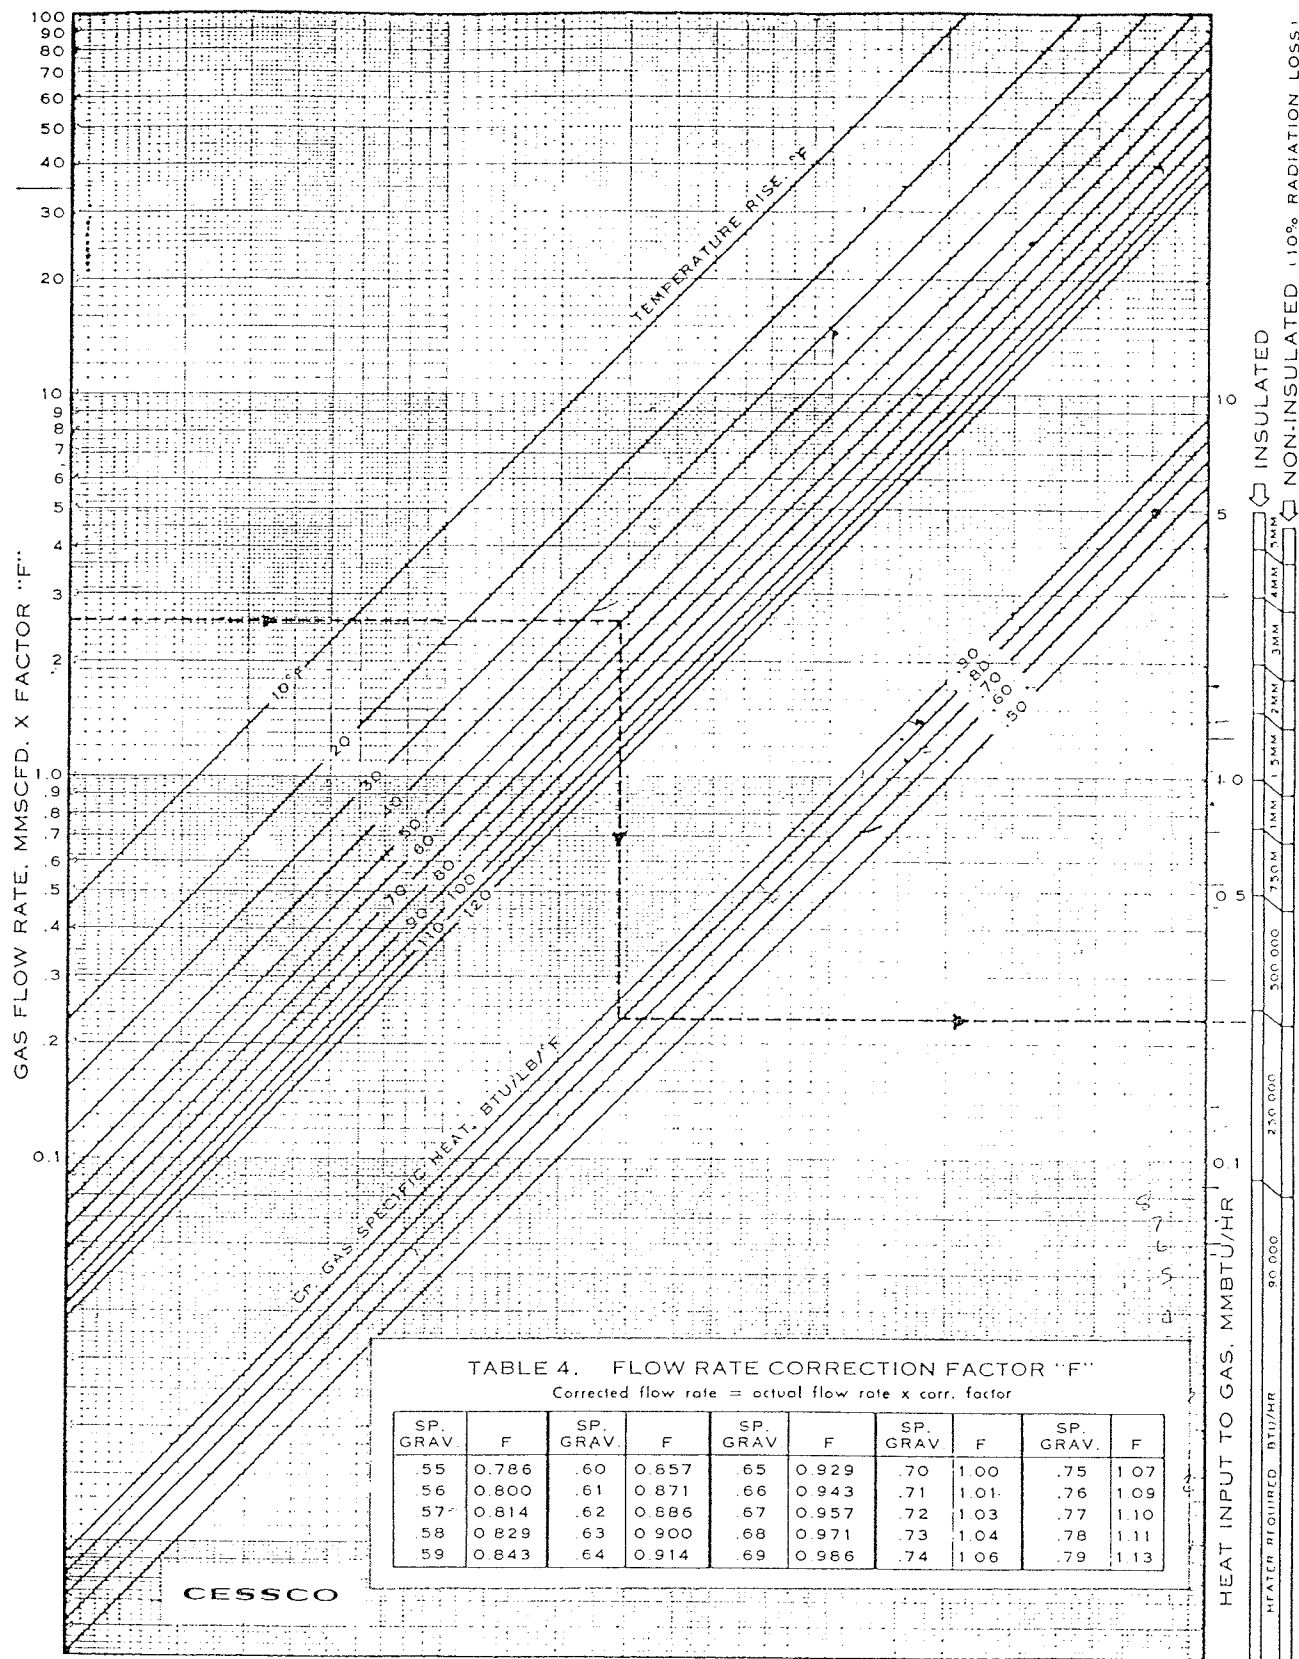
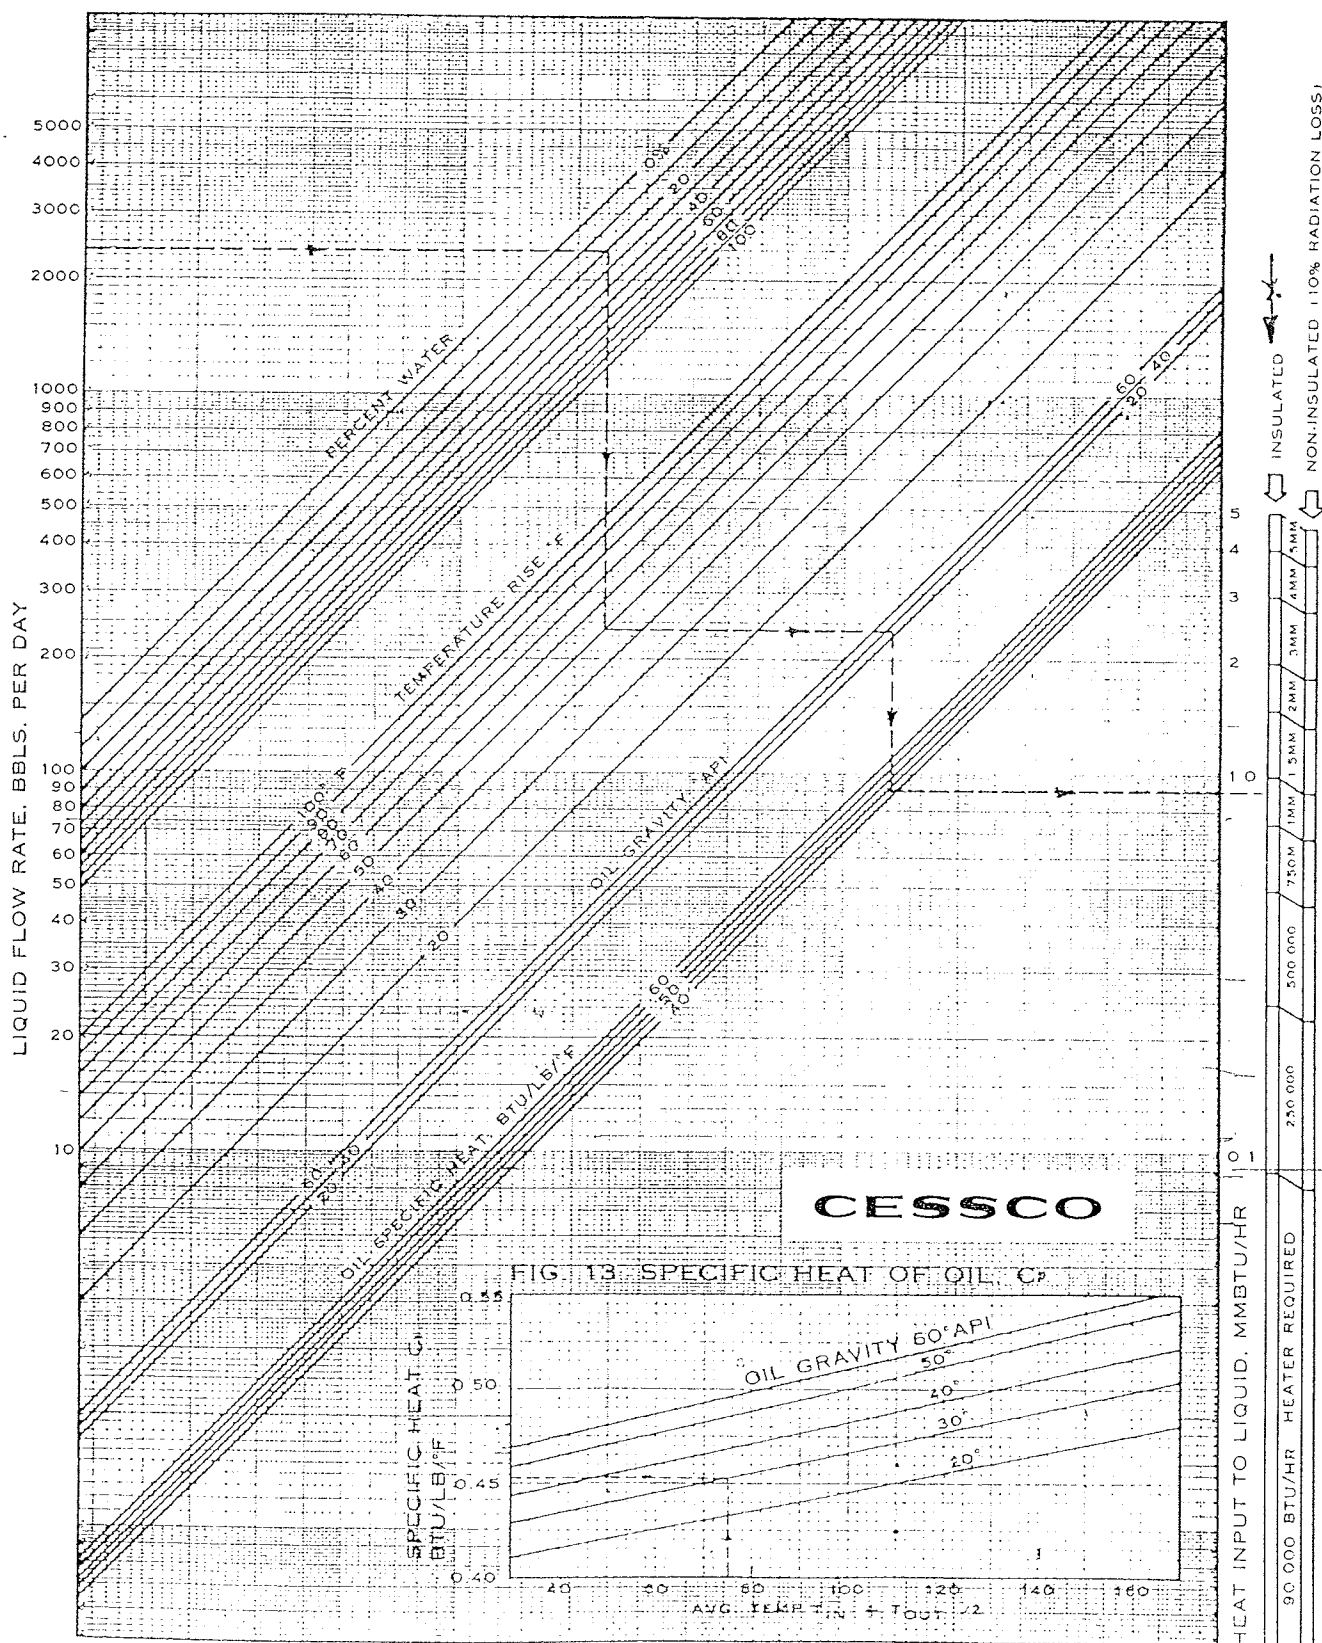
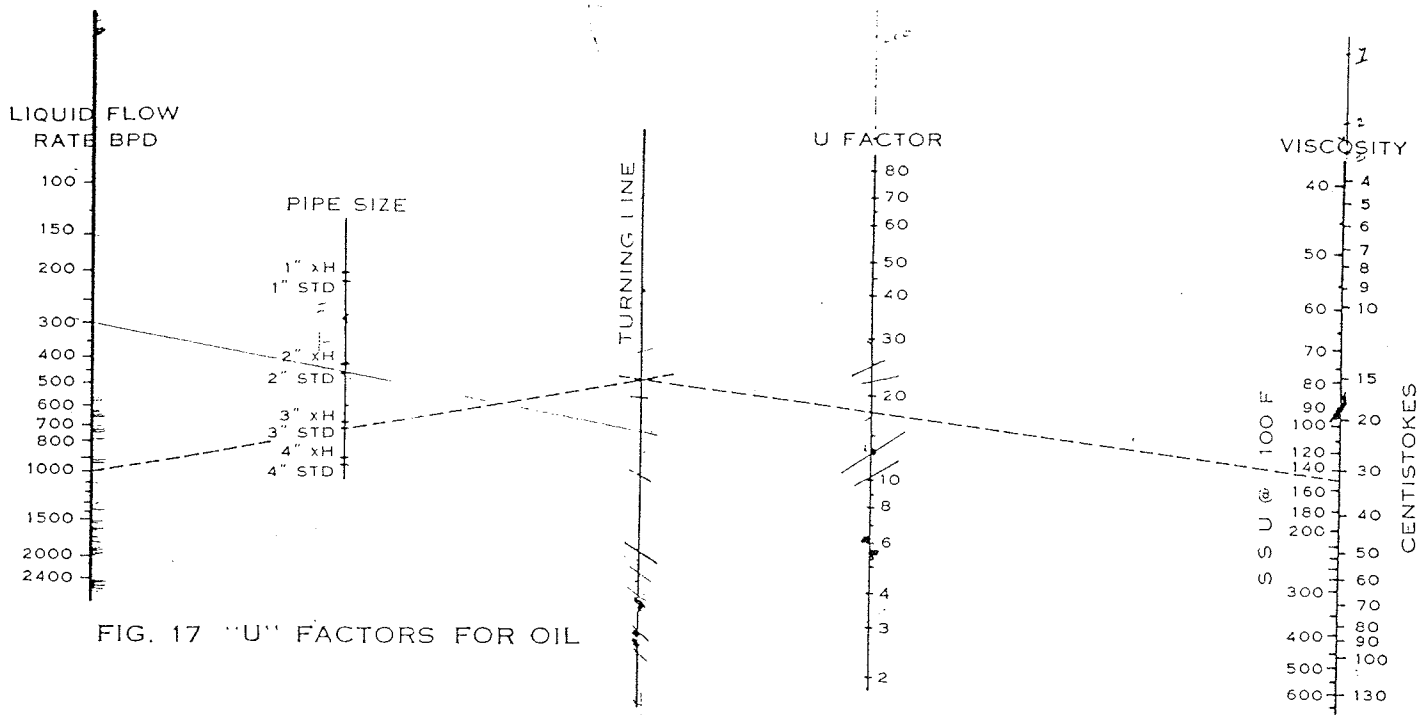

FIG. 8. HEATER BTU SIZING FOR GAS
FIG. 14 HEATER BTU SIZING FOR LIQUID (Assumes Water Gravity of 1.02).
FIG. 17 "U" FACTORS FOR OIL
This formula is solved graphically by Fig. 8.
NOTE: Where a two-phase stream consisting of both gas and liquid is to be heated, size for the gas by Figs. 8 and 9 and the oil by Figs. 14 and 15, adding the heat and coil area requirements to arrive at the total heater requirement.
(1) Continue from Fig. 8, entering with the required heat input. (2) Follow to the "U" factor curve, then (3) to the LMTD curve. (4) Read required area.
Determine the coil area, using 2" XH pipe to handle the example given with Fig. 8.
Fig. 11 shows "U" for 3.0 MM through 2" XH pipe to be 169. From Fig. 10, the LMTD, based on 70°F inlet, 120°F outlet, 190°F (standard) heater bath temperature, is 93°F. Continuing from Fig. 8, enter at 232,600 Btu Hr heat input. Follow to the 169 "U" curve, then to the 93°F LMTD curve. Read 23 ft² required coil area.
- (1) Continue from Fig 14 with the required heat input.
- (2) Follow to "U" Factor (Fig. 17), then (3) to LMTD (Fig. 16) and (4) read required coil area.
Determine the coil area, using 3" std. pipe, to handle the example given with Fig. 14. The oil viscosity is 4.6 centipoises at 100°F.
dividing by the oil sp. gravity, $0.8760:4.0/.876=4.6$ centistokes. Fig. 17 shows "U" for 2400 BPD and 4.6 centistokes to be 58. Fig. 16 shows the LMTD, based on 50° inlet and 100° outlet, to be 112°F. Continuing from Fig 14 with 900,000 Btu Hr heat input, follow to 58 "U" Factor, then to 112°F LMTD. Read 140 ft² required coil area.